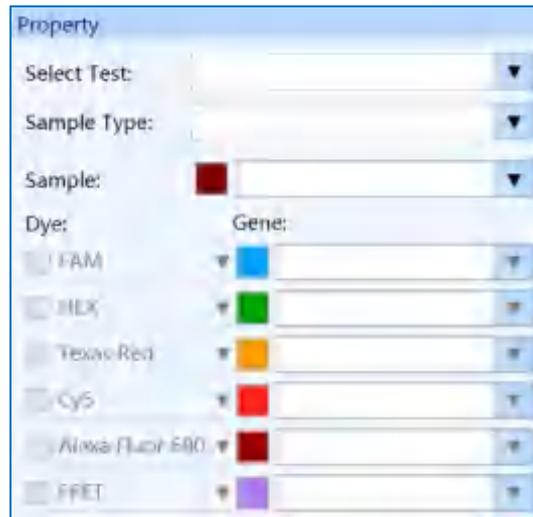
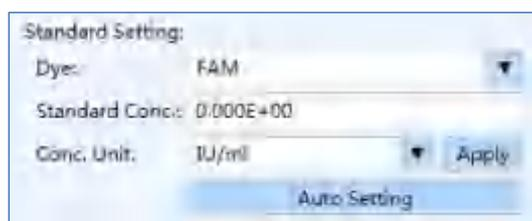

Figure D-5.2 Sample Setting interface - Sample Property Box
Figure D-5.3. Sample Setting interface - Standard Setting box
- **Sample Property Box:** user can **Select Test** and set the **Sample, Sample Type, Dye, Gene** for the selected wells, as shown in figure D-5.2.
- ① **Reminding:** if user has created an experiment through other way, the **Select Test** drop-down list will not be activated.
- ① **Reminding:** user can click the color block before the **Sample** input box to select a data analysis color for all samples with the current sample name.
① **Reminding**: figure D-5.2 takes 96E instrument models of real-time PCR system as an example, the application software displays the corresponding dye of six channels.
① **Reminding**: user can click the color block before the **Gene** input box to select a data analysis color for all samples with the current gene name.
▶ **Standard Setting**: if the sample type for the selected well is  **Standard**, the **Standard Setting** box will be activated, as shown in figure D-5.3.